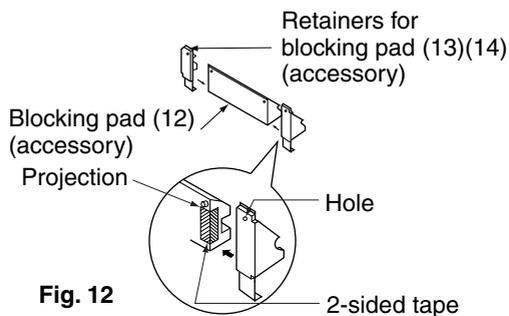

Fig. 12
3. Attach the retainers to the blocking pad. (Refer to Fig. 12) Align the projections on the pads with the holes on the retainers, and tape parts together with 2-sided tape.